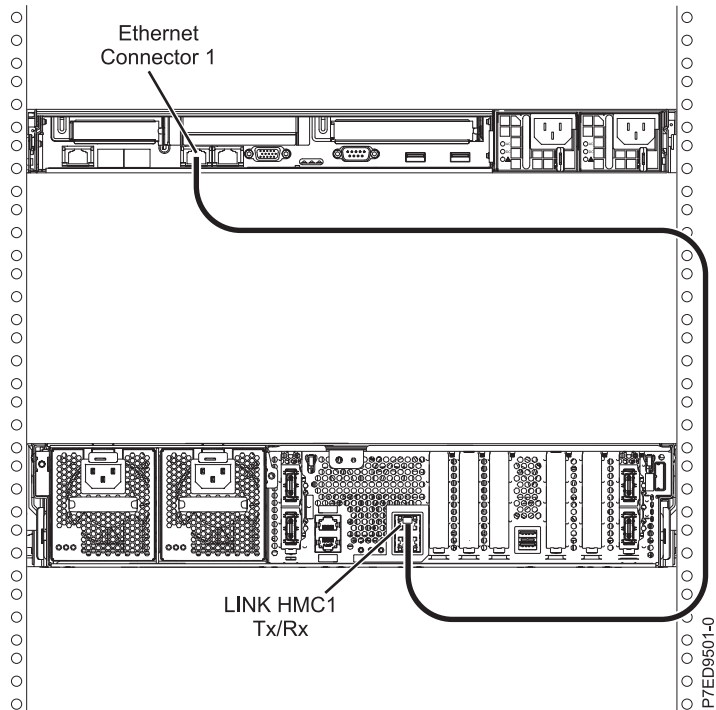

Figure 19. Attaching your HMC to the managed system
1. If you want to directly attach your HMC to the managed system, connect **Ethernet Connector 1** on the HMC to the **HMC1** port on the managed system, as shown in Figure 19 on page 17.